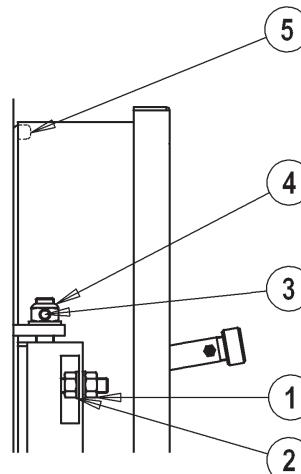

fig. 9
5.6.1 Para modelos PREXTERM RSW 92N÷600N (Fig. 9)